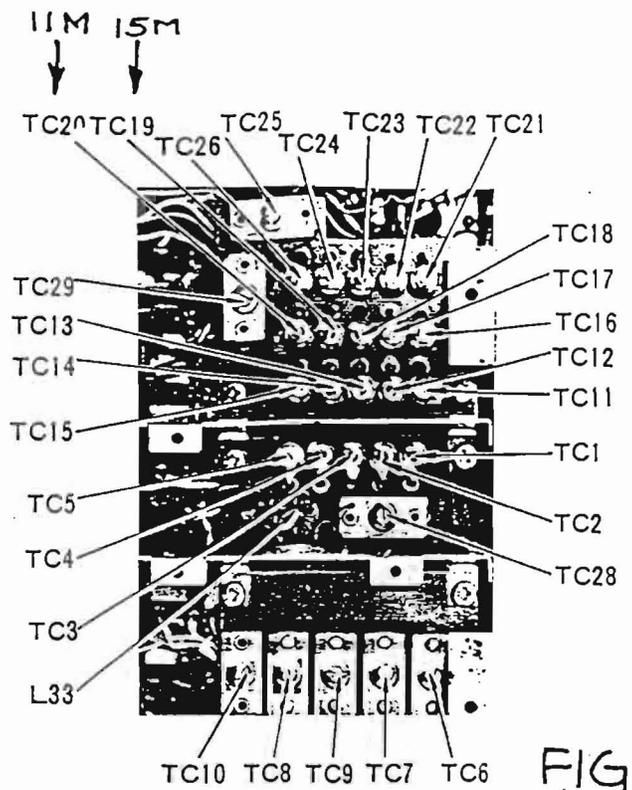

FIG. 2
- ( ) 4. Stand the unit on edge so that both the top and bottom chassis can be viewed. Looking at the bank of crystals, identify the 15-meter (X4) (27.02 MHz) crystal and the 11-meter (X5) (33.02 MHz) crystal. Now see Fig 2. Looking at the bottom chassis, identify the TC-19 (15 meter) and TC-20 (11-meter) capacitors. NOTE: If in doubt about the crystals or trimmers, apply power to the set and tune in the 100 KHz CAL signal on each band. Touching an insulated screwdriver to the hot end of the proper crystal or trimmer will cause a change in the tone of the CAL signal. Disconnect the power line.